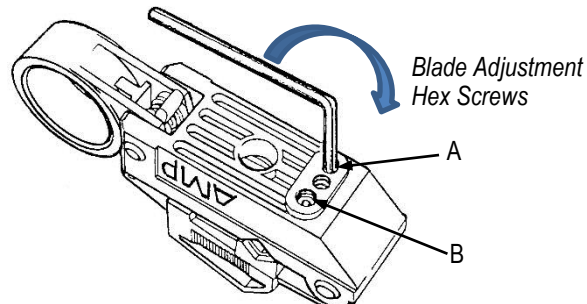

Figure 19
1. Rotate the blade adjustment screws (A or B) clockwise until they touch the gauge; see Figure 19.